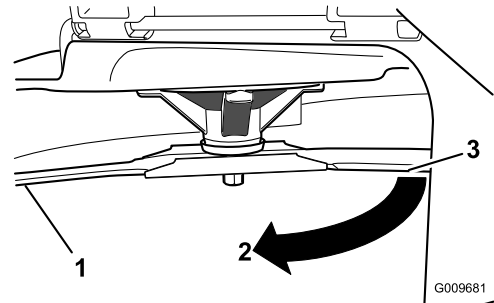

Figure 51
3. Measured distance between the blade and the surface (A)
4. Rotate the same blade 180 degrees, so that the opposing cutting edge is now in the same position (Figure 51).